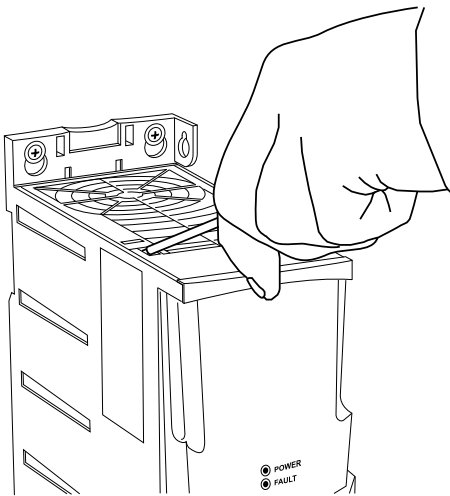

Fig. 33 — Remove Top Cover on ACS320 VFD
2. Insert a small straight blade screwdriver into the slot and press in to release the top cover as shown in Fig. 33.